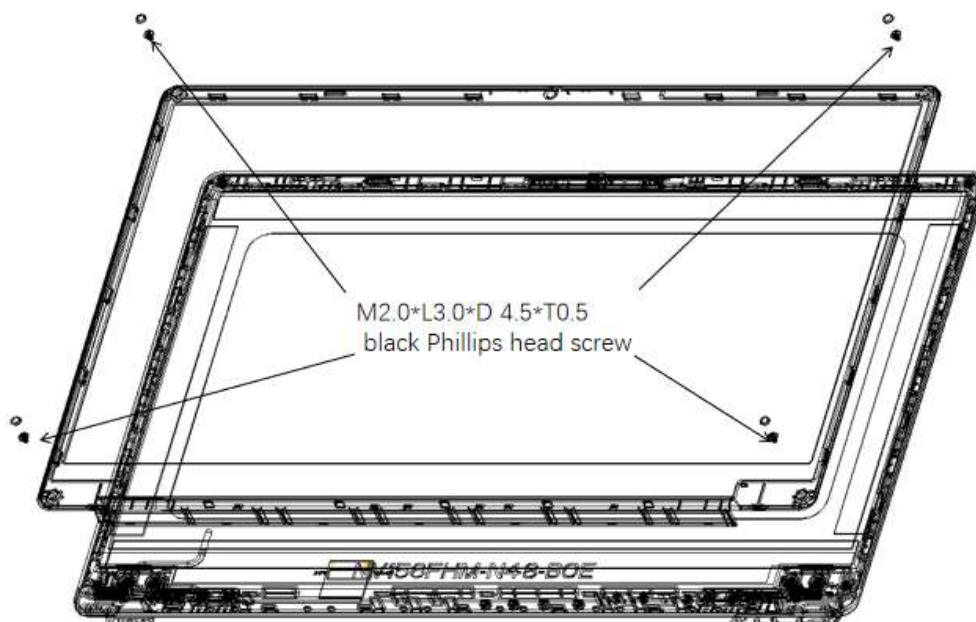

Figure 4-27 Removing the LCD Module Mask
3. Insert your finger between the edge of LCD Module Mask and the LCD panel by twist in correct indication and follow step 1, 2 & 3 to release the latches as Figure 4-27 shown.
Install the LCD Module Mask according to the following procedures and Figure 4-27 & 4-28.